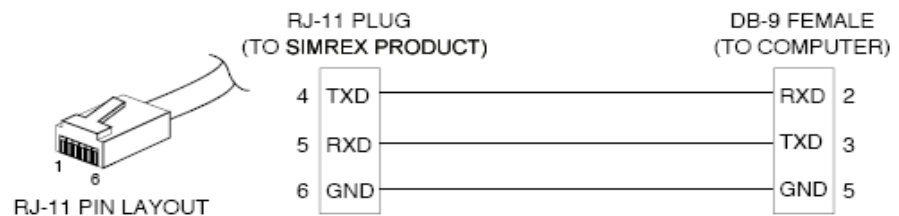

Figure 3-4. Serial Communications Cable (RJ-11 to DB-9)
1. Connect a serial communications cable between the PC and the unit's COM 1 port. If necessary, a cable may be constructed for this purpose as shown in Figure 3-4.